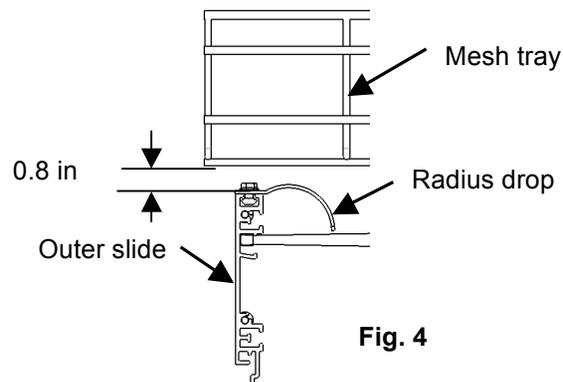

Fig. 4
1. Position the Radius Drop on a top slide of the cabinet (Fig. 4 & 5).
2. Fasten it by using M6 X 10mm screws with M6 drop-in-nut at top slot (Fig. 4 & 5).
3. Maintain the gap between mesh tray and Radius Drop to be 0.8in (20.5mm) (Fig. 4) to avoid interference.